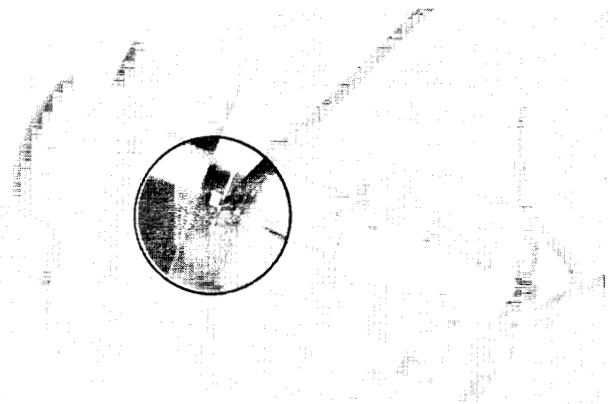

Figure 5.01
5.01 CLEAN HEAD AND TEST (fig. 5.01)